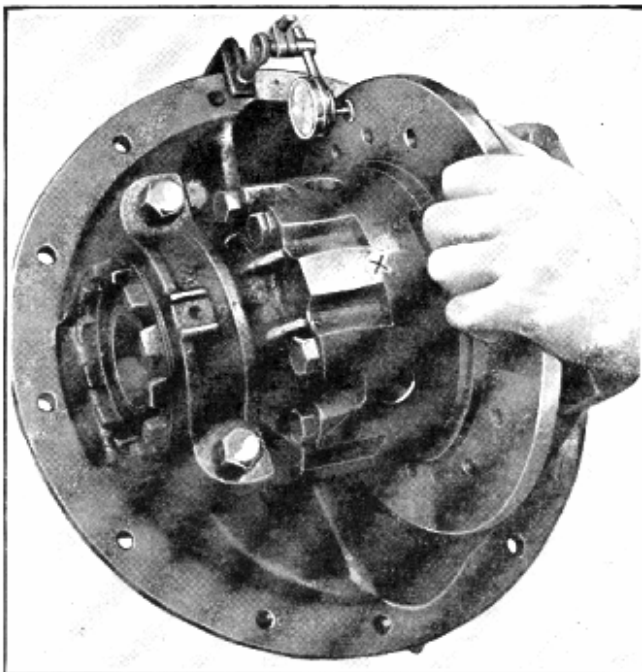

Fig. 37—Checking Run-Out of the Differential Case
4. Wipe surfaces clean of all dirt and foreign matter and check run out of the surface on which the ring gear sits by bolting the differential halves together, setting up the case in its bearings in the differential housing and attaching a dial indicator as shown in Fig. 37.